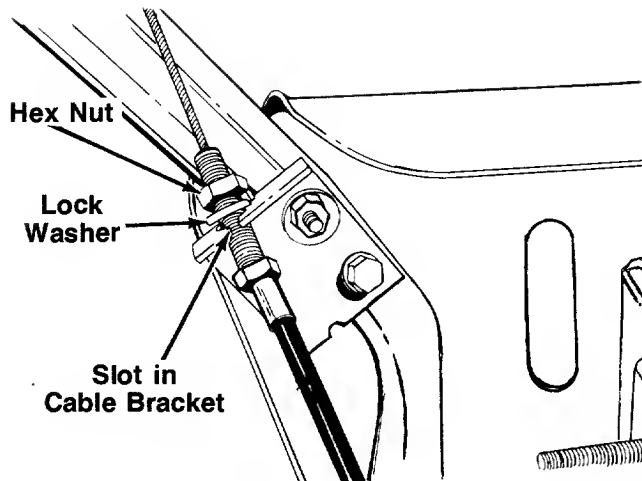

FIGURE 10.
1. Remove one nut and the lock washer from the end of the tine control cable. Slip the cable up through the slot on the cable bracket on the left handle. Rethread hex nut and lock washer on the end of the cable. See figure 10. Do not tighten at this time.